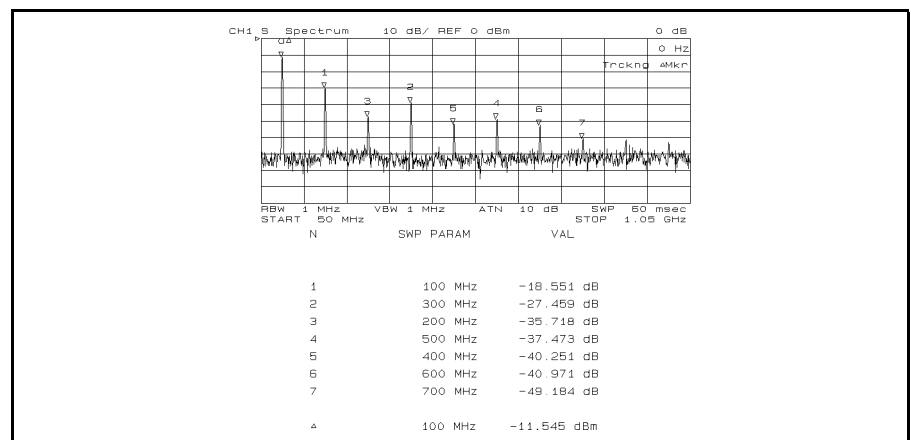

Figure 4-3.
4. Press **[Utility]** **MKR LIST** on **OFF** to **ON** off to turn marker list on. The Δmarker and all sub-marker values are displayed as shown in Figure 4-3.